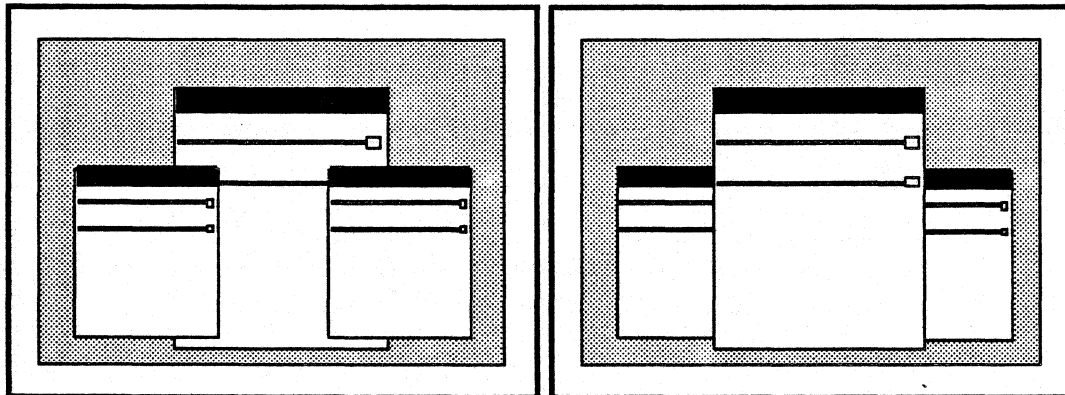

Figure 3.22
- 1) Select **Top** in the Window Manager Menu. See figure 3.22.